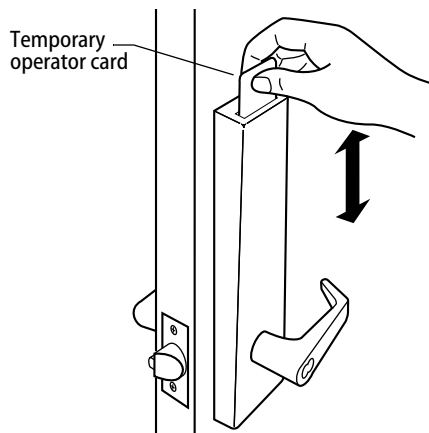

Figure 19
- 1 With the temporary operating instructions facing toward you, insert and remove the temporary operator card, as shown in Figure 19.